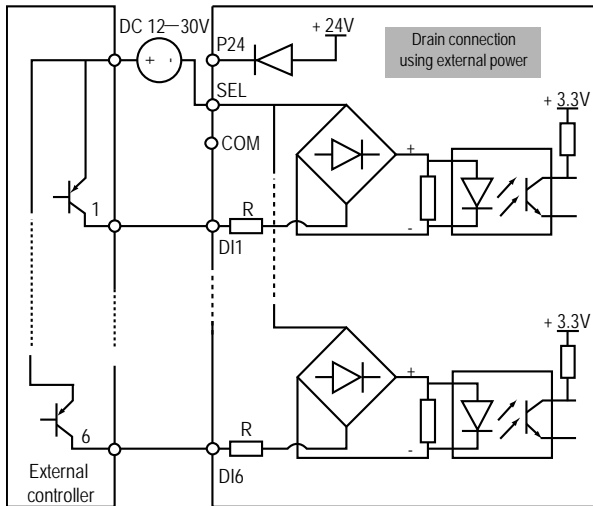

Figure 4-10 Drain input connection when using external power
2. If the external power supply is used, the drain connection is as shown in Figure 4-10. (Note that the SEL and the P24 are not short-circuited)